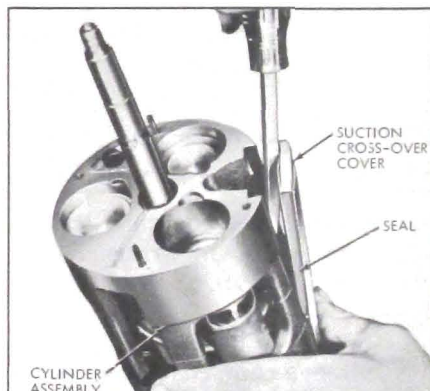

Figure 11-120—Removing Suction Crossover Cover
1. Remove suction crossover cover as shown in Figure 11-120 and discard seal on cover.